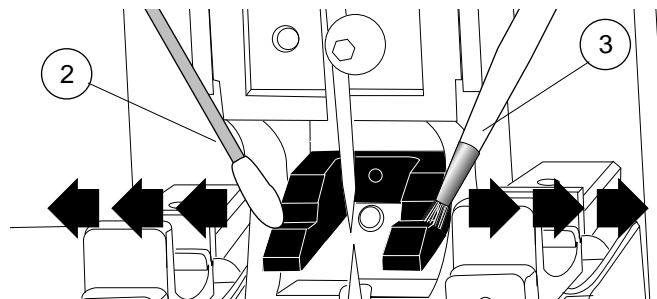

Figure 76
3. Use the small brush provided with the set to remove any remaining dirt or contaminants (Figure 76). Always brush away from the electrodes.